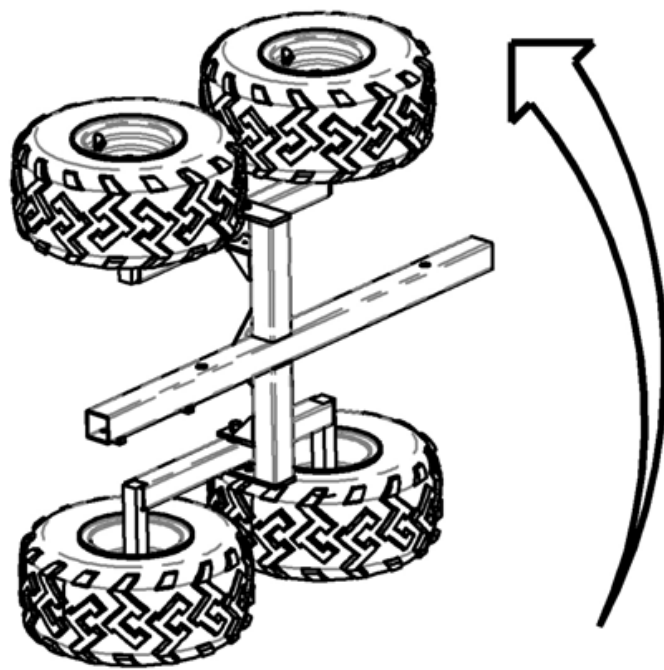

Figure 10
**NOTE:** The easiest way of turning the unit over is to lift the two Wheels on the Right Side of the Trailer while pivoting over the Wheels on the Left Side (**Figure 10**).